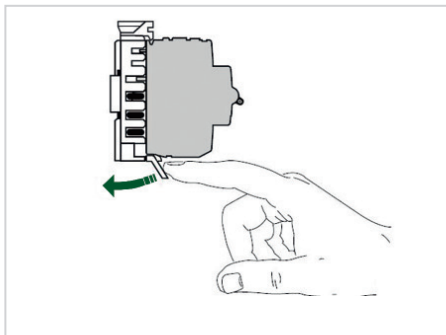

Fig.17: Disconnecting a device
– To dismount the device open the fixing clip, displayed in Fig.17